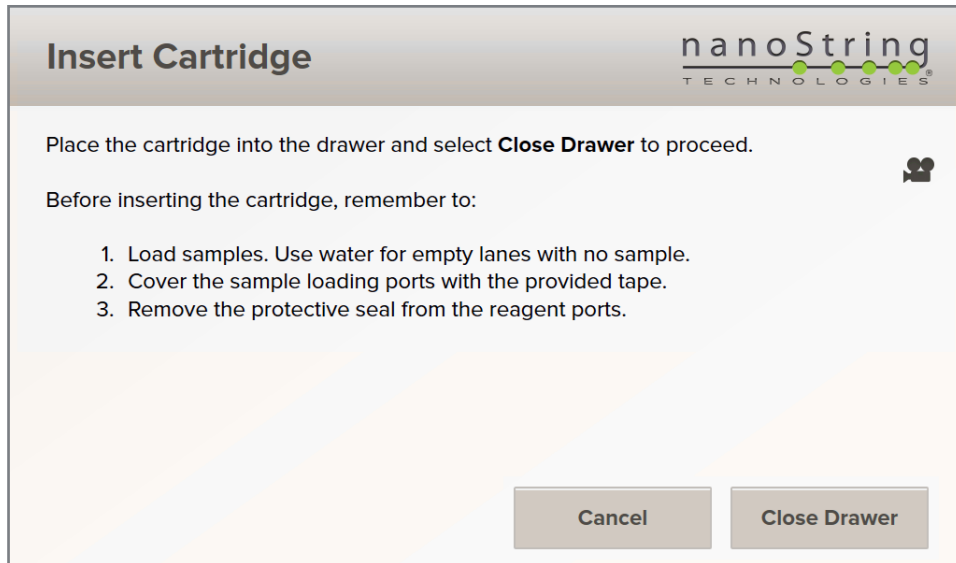

FIGURE 6.4 The Insert Cartridge screen.
2. After the drawer has fully opened, review the reminders on the Insert Cartridge screen (**FIGURE 6.4**). Ensure that the samples were properly loaded, that the clear tape was placed over the sample loading ports, and that the green protective seal was removed from the reagent ports.